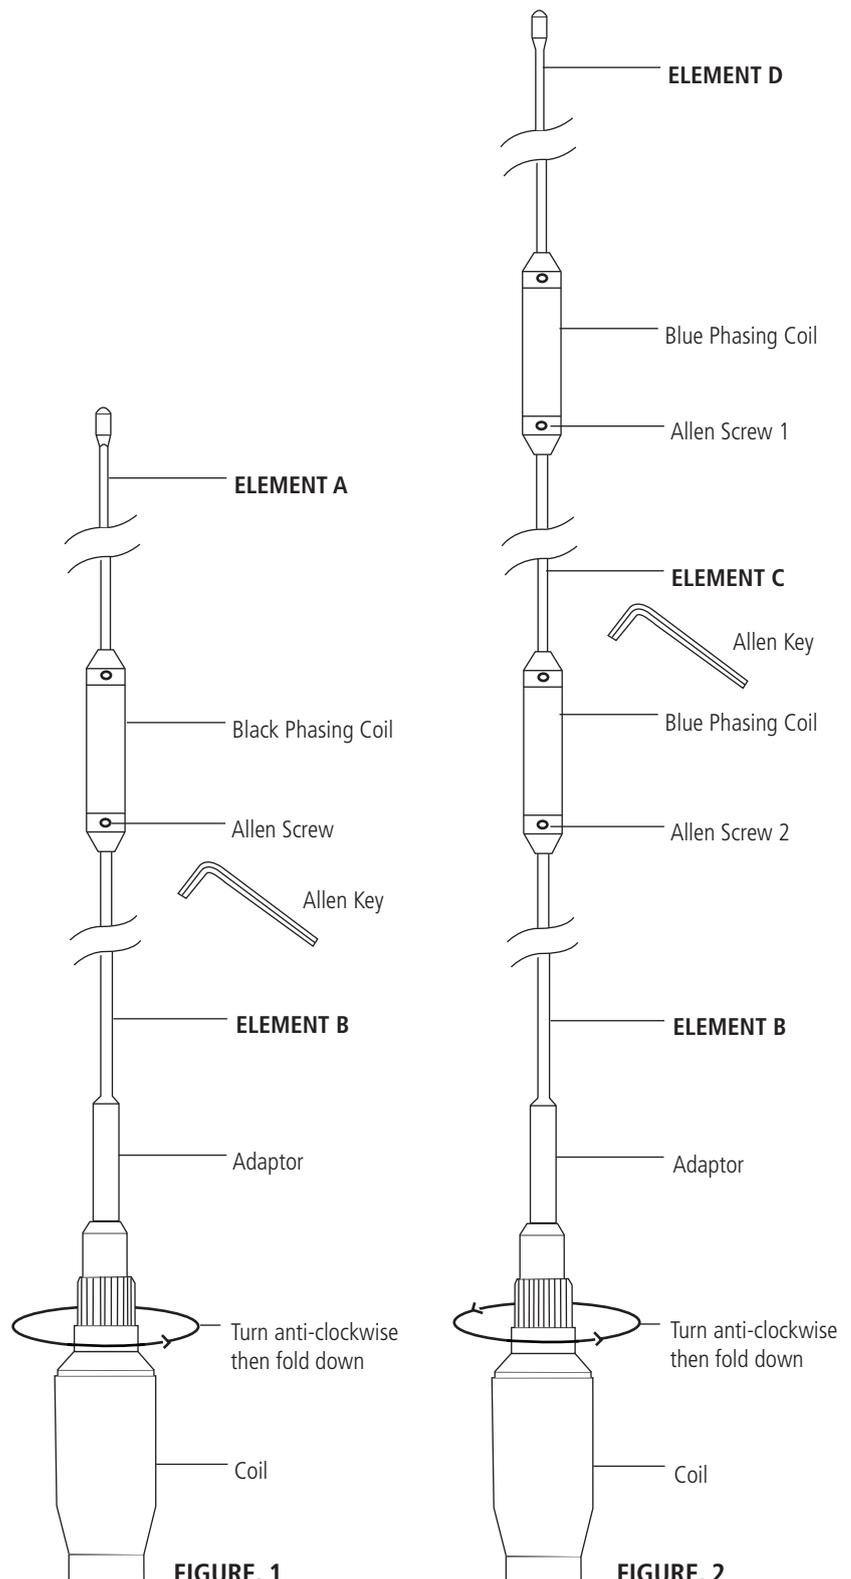

FIGURE 1
1. Refer to Fig 1. Locate Element A, identified by the black phasing coil.
- **6 dBi Antenna:** Loosen the Allen screw shown in Fig.1 and move Element A up or down on Element B. Re-tighten Allen screw when adjusted.
Your AE409L can be folded down by loosening the knurled tubing above the base coil, (Fig.1) and sliding up. The antenna can now be folded down.